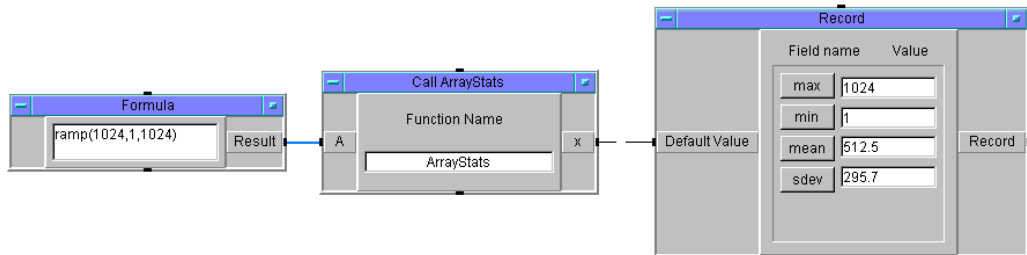

Figure 7-5. After Editing ArrayStats Output to a Record
8. Run the program. It should look like Figure 7-5.